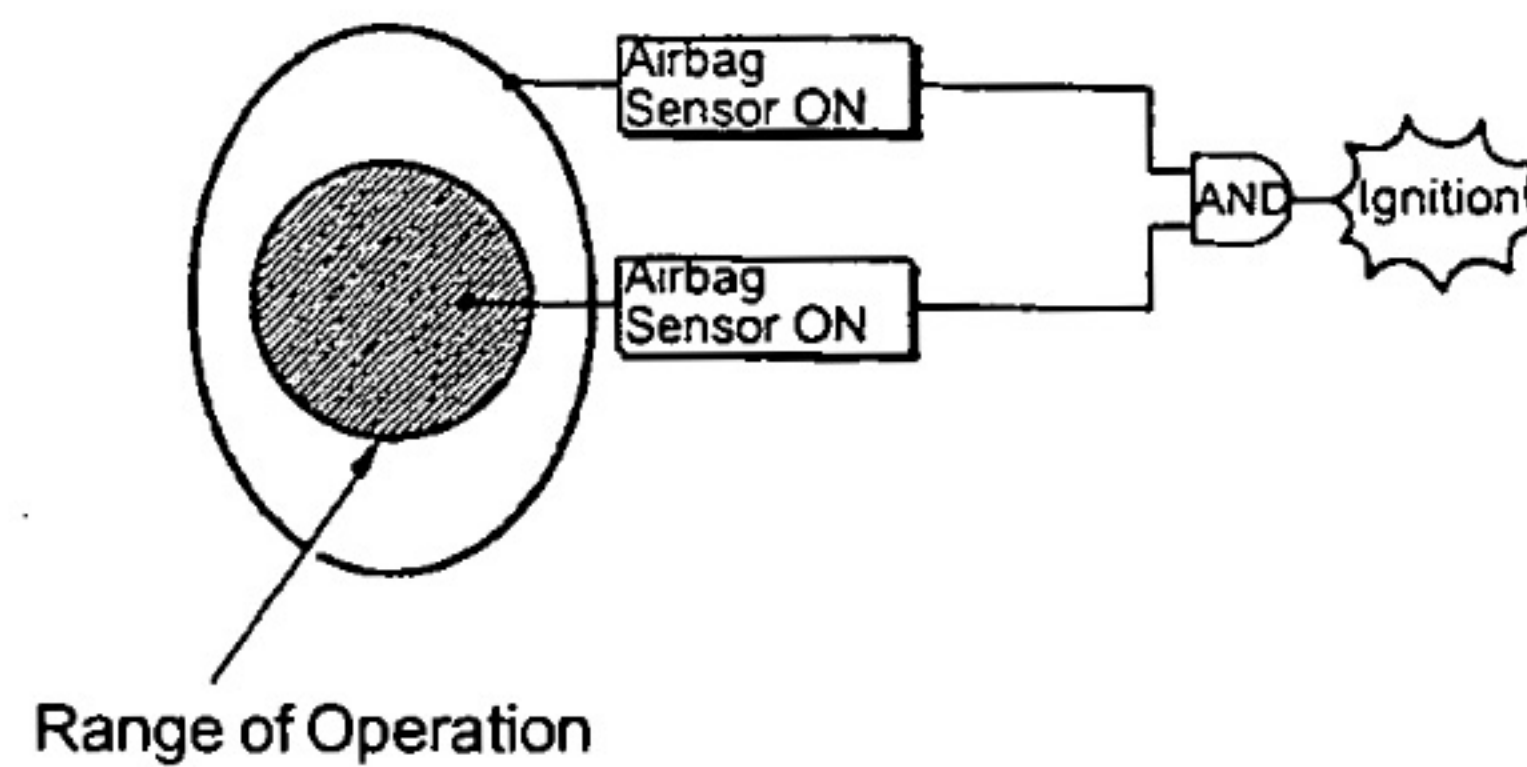

Fig. 2
- The safing sensor is designed to be turned on by a smaller deceleration rate than the airbag sensor. As illustrated in Fig. 2 below, ignition is caused when current flows to the squib, which happens when the safing sensor and the airbag sensor go on simultaneously.